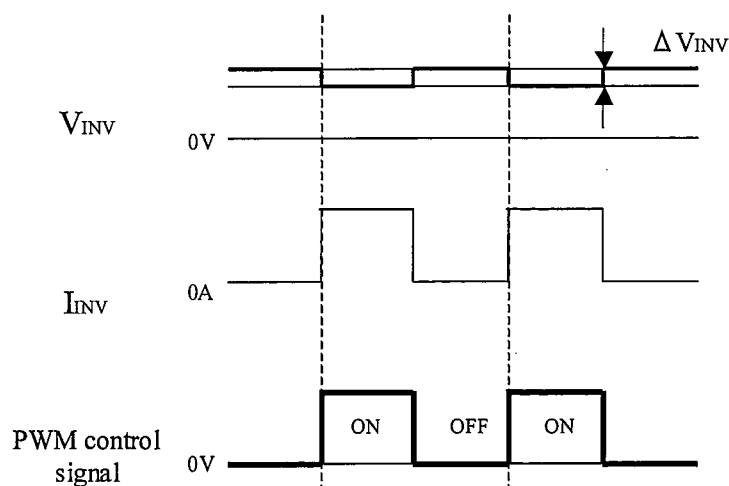

Fig.4 Brightness control voltage.
- c) Brightness control voltage is switched for "ON" and "OFF", as shown in Fig.4. Voltage difference generated by this switching,  $\Delta V_{INV}$ , may affect a sound output, etc. when the power supply is shared between the inverter and its surrounding circuit. So, separate the power supply of the inverter circuit with the one of its surrounding circuit.